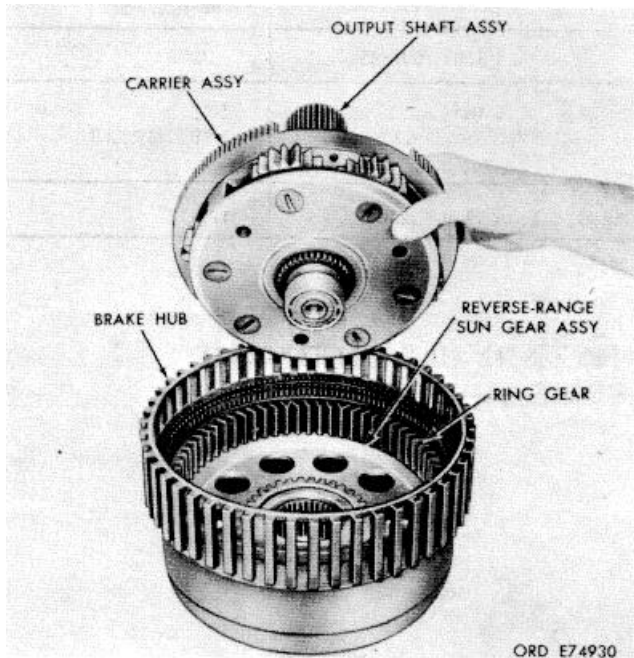
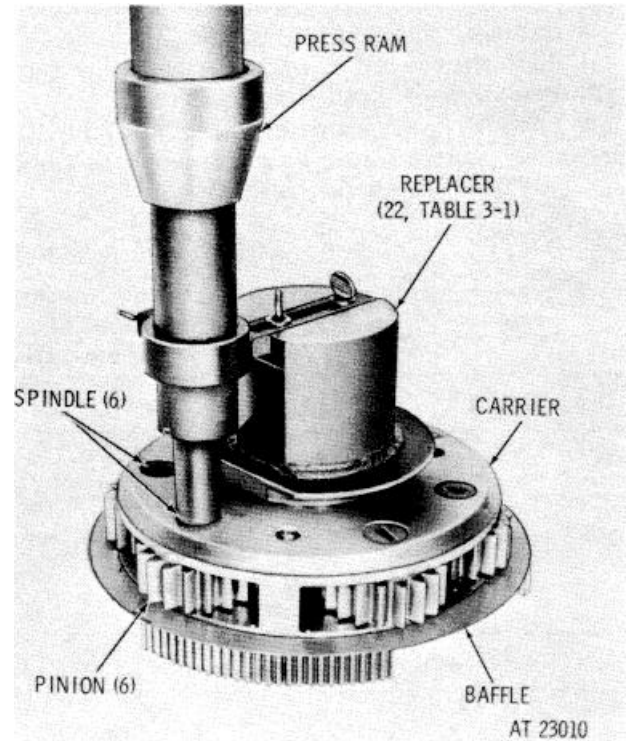

Figure 7-31. Removing for installing) steer planetary carrier assembly.
Figure 7-33. Installing spindle into steer planetary carrier.
b. Remove output shaft assembly (8, FO-9) and steer planetary carrier assembly (2) from brake hub (17) as an assembly (fig. 7-31).
c. Remove the steer planetary ring gear and the reverse-range sun gear assembly from the brake hub (fig. 7-31).
d. Remove retaining ring (16, FO-9) from steer planetary ring gear (13).
e. Remove reverse-range sun gear assembly (15) from steer planetary ring gear (13).
f. Do not disassemble reverse-range sun gear assembly (15) If the gear or hub of assembly (15) is damaged, replace the entire assembly.
g. the lock tabs on oil collector (5) and remove six bolts (6) the baffle on steer planetary carrier (4).
h. Remove collector (5) from carrier (4).
i. Remove six spindle lock pins (7.7) from steer planetary carrier (4) by driving them toward the inner diameter of the carrier and bending the pins if
b. If baffle (3, FO-9) was removed from carrier (4), install a new one. Stake the baffle plate two places at each of three locations around the inside diameter of the baffle to secure it to the carrier.
g. Install the pinion with rollers, washers and spacers into the carrier using an alinement tool of replacer (22, table 3) to align the pinion components with the spindle bore in the carrier. Refer to figure 7-33.
h. Using spindle replacer (22, table 3-1), and indexing the spindle and replacer, install the spindle into the carrier. Press the spindle flush with, to 0.010 inch below, the spindle bore surface of the carrier (fig. 7-33).
i. Install pin (7.7, FO-9) into carrier (4). Press the pin 0.030 to 0.090 inch below the pin bore surface of the carrier outside diameter. Stake carrier metal over the pin at two places.
k. Install oil collector (5) on carrier (4) and secure it with six 5/16-24 x 5/8 bolts (6). Bend a lock tab on the oil collector against the head of each bolt (6).
l. Install shaft assembly (8) into steer planetary carrier assembly (2) Insert the shaft through the side of the carrier opposite oil collector (5).
m. Install reverse-range sun gear assembly (15) into steel planetary ring gear (13) and secure it with retaining ring (16).
n. Place brake hub (17) on the assembly table, with its external-splined end up.
o. Install reverse-range sun gear assembly (15) and steer planetary ring gear (13) as an assembly, sun gear first, into brake hub (17).
p. Install the steer planetary carrier assembly and output shaft as an assembly, carrier end first, into the brake hub (fig. 7-31). Rotate the output shaft to mesh the carrier pinions with the ring gear.